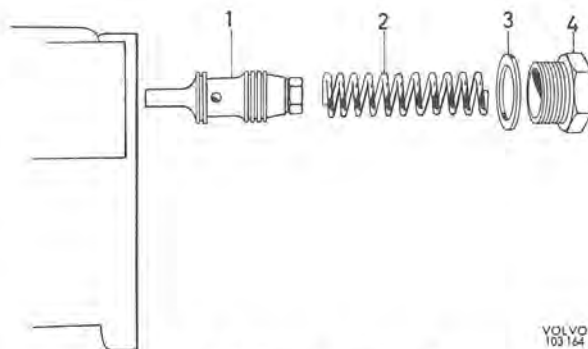

Fig. 6-54. Removing control valve
- b) Remove the pump control valve, see Fig. 6-54. Observe the utmost cleanliness. Wash and